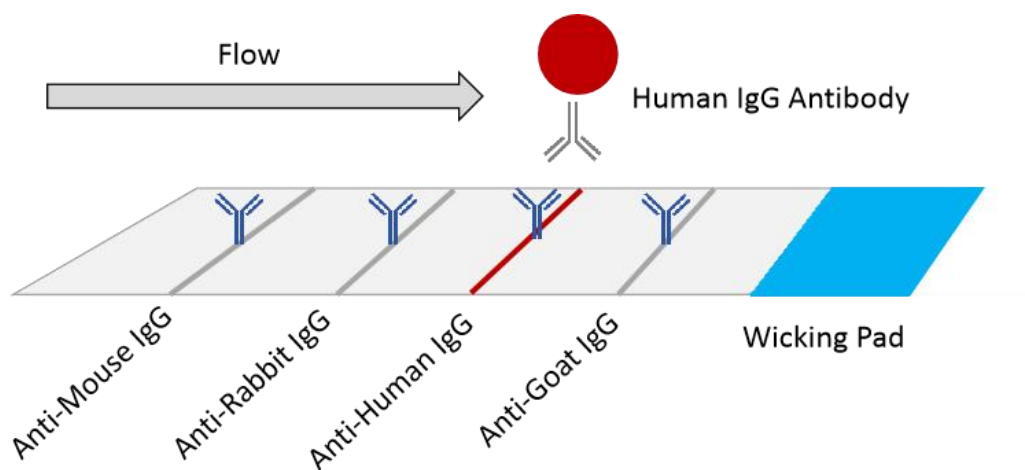

Figure 1. Schematic of the Conjugation QC Lateral Flow Dipstick and its use for evaluating conjugation of an antibody to gold nanoparticles.
The dipstick strips supplied in the kit have four antispecies antibodies (anti-Goat IgG, anti-Human IgG, anti-Rabbit IgG and anti-Mouse IgG) immobilized at discrete locations (test lines) on the membrane of the strip. When an antibody-conjugated gold nanoparticle migrates up the test strip, it will bind to the location with immobilized antibodies specific for the antibody species conjugated to the gold nanoparticle. As a result, a red line will appear indicating a successful conjugation reaction, figure 1. A conjugate from a failed conjugation reaction will not generate any red lines indicating that troubleshooting is required.
4. Place a lateral flow dipstick into the well with conjugate and running buffer. The strip should be placed into the solution with the logo of the strip positioned up, see figure 1.